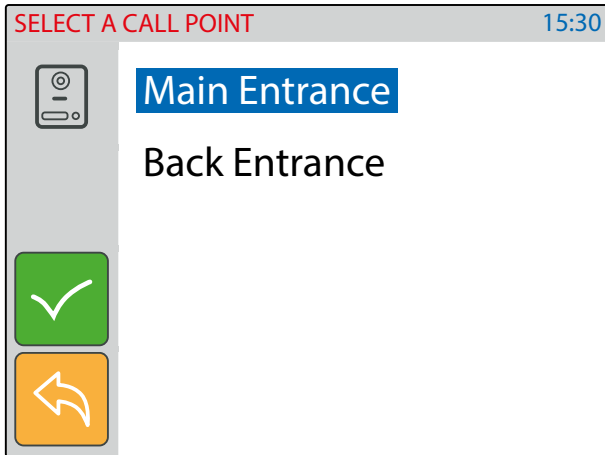

Fig. 55 Select the door panel to recall
- Select the door panel to connect to then tap the call button to open the communication (Fig. 55).